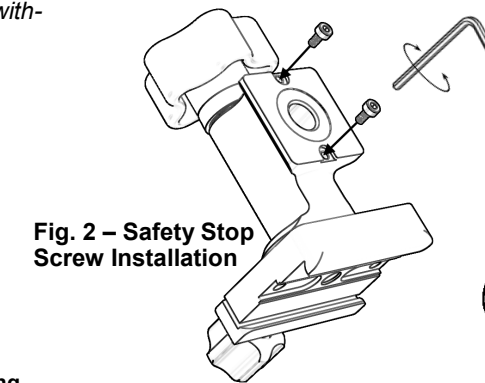

Fig. 2 - Safety Stop Screw Installation
**Step 1: Install the safety stop screw** See Fig. 2. (Also see clamp compatibility warnings in included safety stop screw kit)